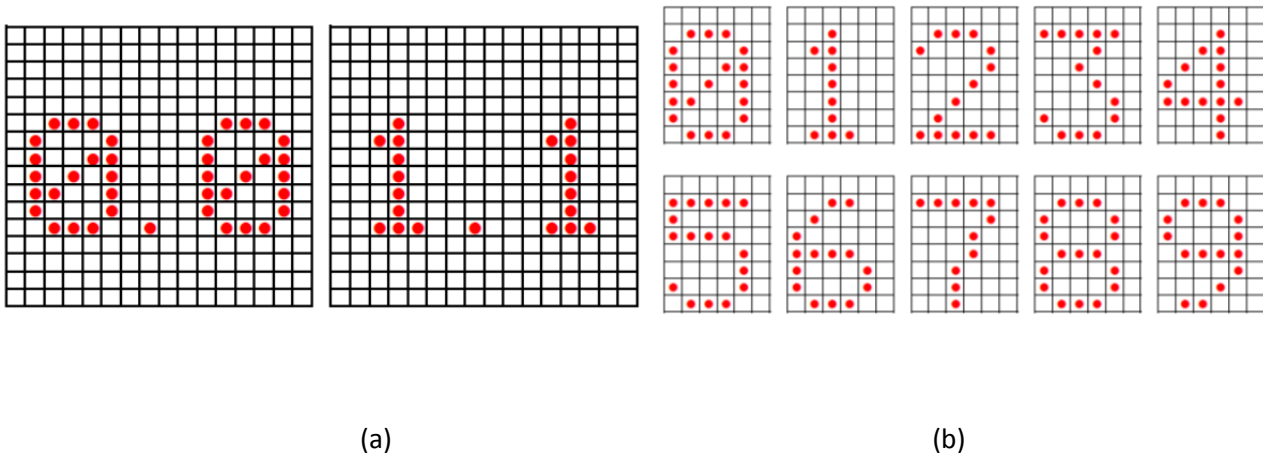

Figure 7. (a) Pattern of DS1 when TP4 = 0.0V and 1.1V (b) The dot layout of numbers
- (1) When S1 is 100, DS1 should function as a digital voltage meter immediately.
- (2) The DS1 should display the voltage value of TP4 with X.X format, as shown in Figure 7 (a); the error should $\leq 0.1V$. The dot layout of numbers is shown in Figure 7 (b).
- (3) The display is stable and no glitch.
- (4) LED1~LED4 should follow table 2.